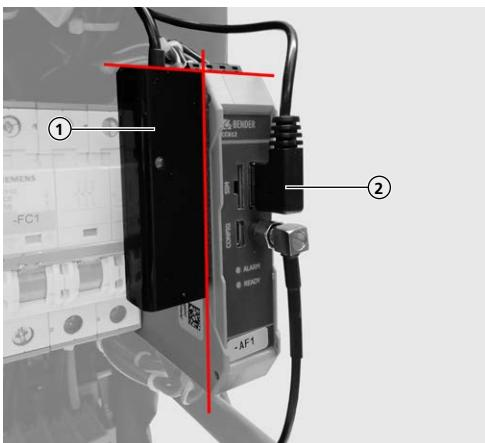

Fig. 4: Stick the USB to Ethernet adapter flush on the ECU
- ▶ Stick the USB to Ethernet adapter **(1)** **flush** on the ECU (see Fig. 4).